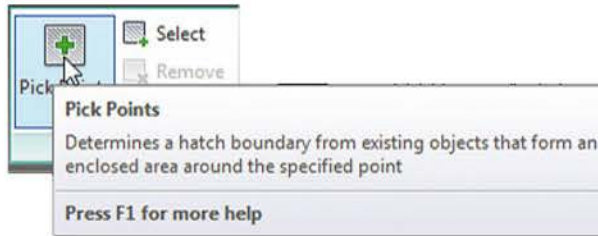

Fig. 7.11 Left-click Pick Points in the Hatch Creation/Boundaries panel
4. *Left-click* **Pick Points** in the **Hatch Creation/Boundaries** panel (Fig. 7.11) and *pick* inside the areas to be hatched.